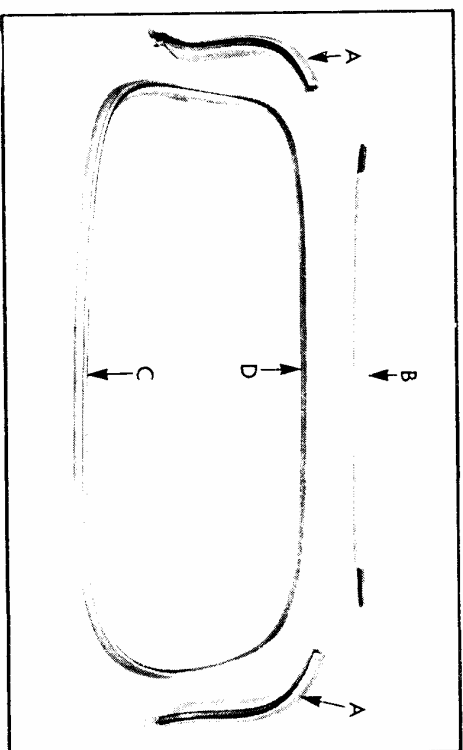

Fig. 8 Windshield Assembly - Disassembled
1. Underneath the instrument panel, remove twelve (12) nuts holding windshield assembly to cowl.
6. Remove the header molding and upper frame assembly as a unit. Fig. 8 shows an exploded view.